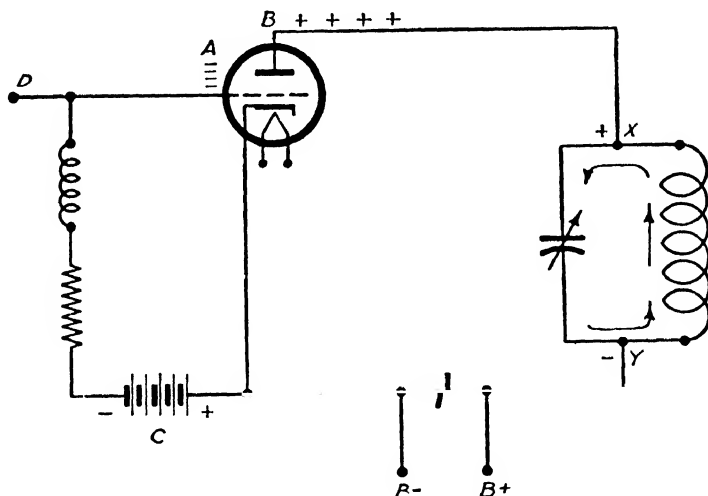

FIG. 448. Without neutralization, the surges in the tank circuit drive electrons onto the plate and cause feedback through the tube.
When the set is in operation, regular surges come into this circuit over wire *D* (Fig. 448) from the crystal oscillator.
The tank current surge. While the grid is negative, the oscillating current in the tank circuit surges as shown in Fig. 448. Some electrons are forced onto the plate of tube *B*, because there is now an electron pressure on the plate end of the tank coil. This makes the plate less positive.
2. When the X end of the tank coil is positive, what effect would the grid have upon the feed line D if the amplifier were not neutralized (see Fig. 448)?